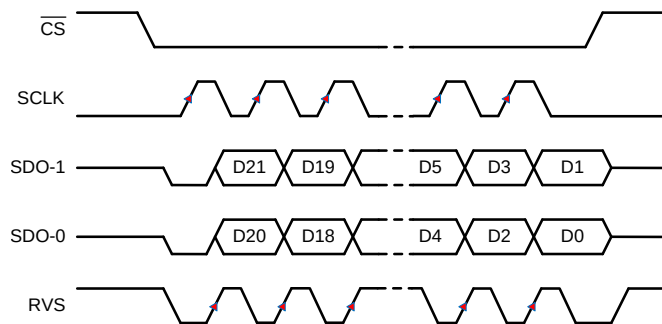

**Figure 77. SRC-EXT-DS: SRC, SCLK, Dual SDO, SDR**
| SRC-EXT-DS | SCLK (1)       | Dual      | SDR              |                                      | 0Bh      | 9                                  | <a href="#">Figure 77</a> |